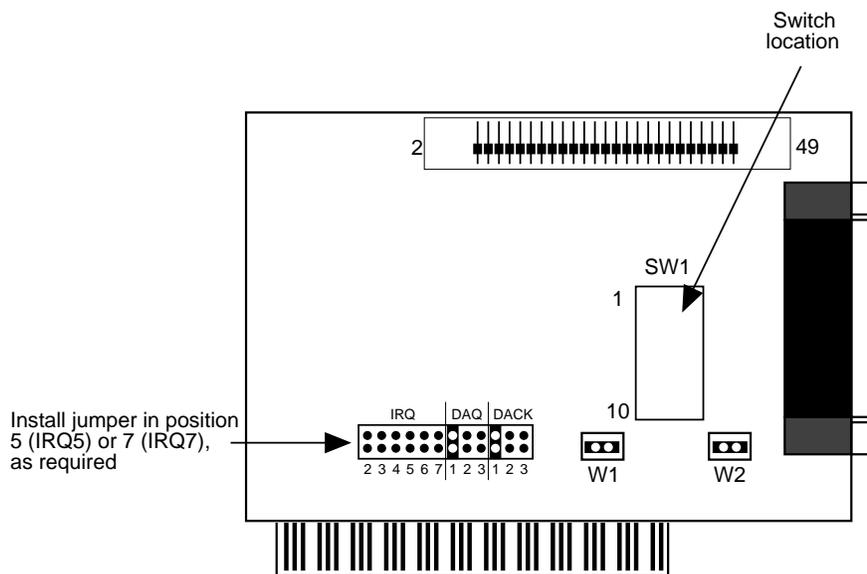

Figure 9-6. Cartridge Tape Controller Card
3. Set the switches and jumpers as indicated in the Figures 9-6 and 9-7.